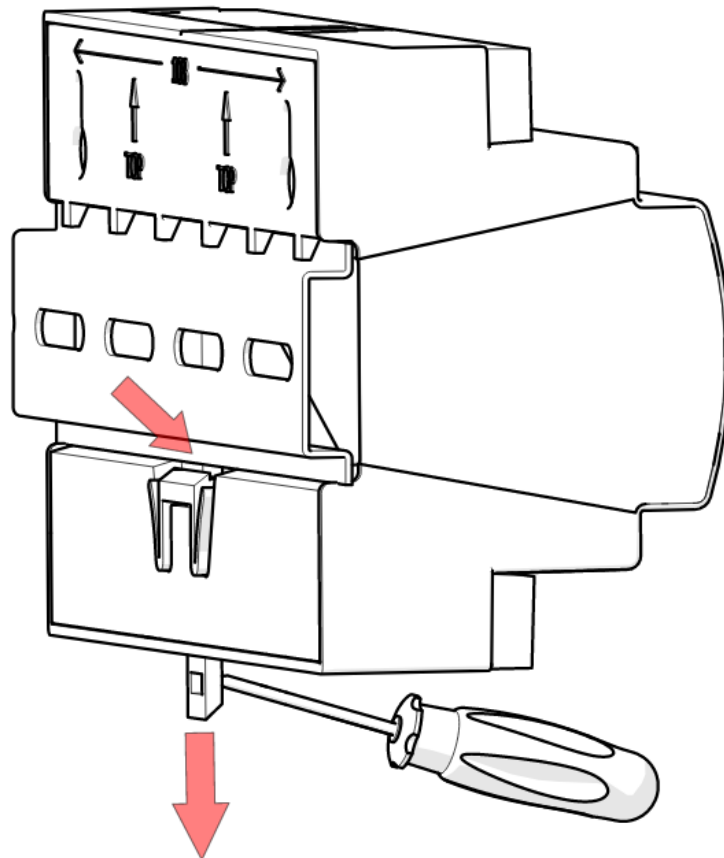

Figure 7. Pull down the spring-loaded retention clip using a flat-blade screwdriver
- 3. Push the unit onto the DIN rail. Refer Figure 7.